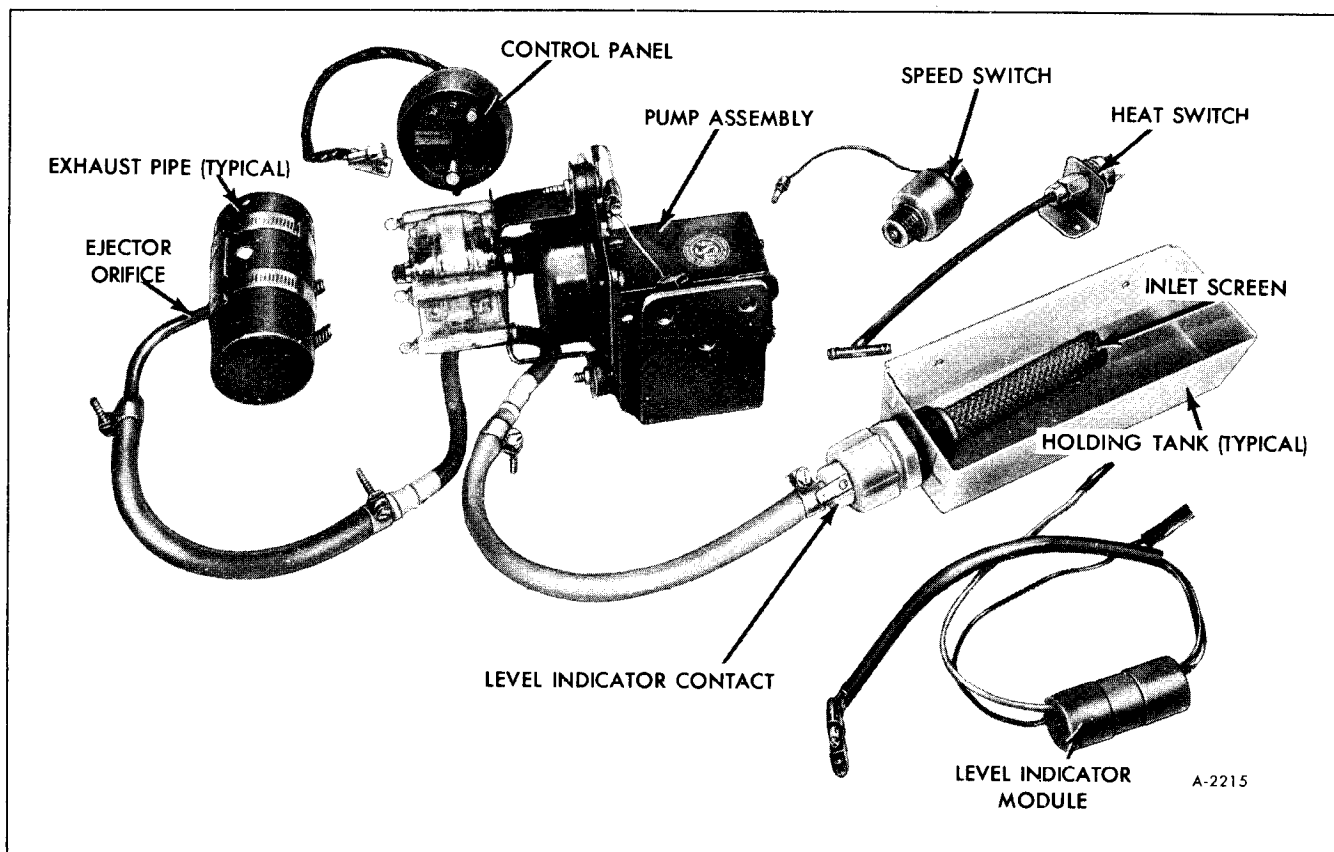

Figure 1—Thermasan Components
The Thermasan System contains six basic components (Refer to figure 1):
a. Remove the (2) pan head screws holding the terminal dust cover in place.
4. Check the holding tank evacuation probe (inlet screen) and inspect it for possible clog (See figure 1).